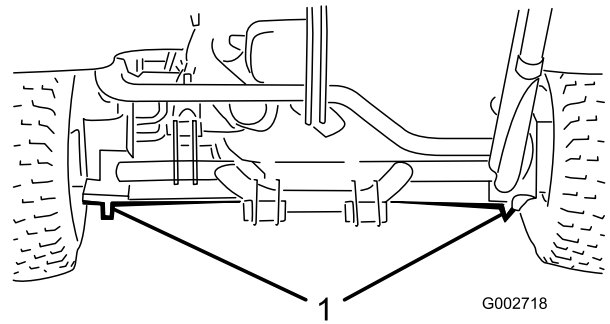

Figure 21
- Left or right side—under the rear wheel motor or the frame (Figure 21).